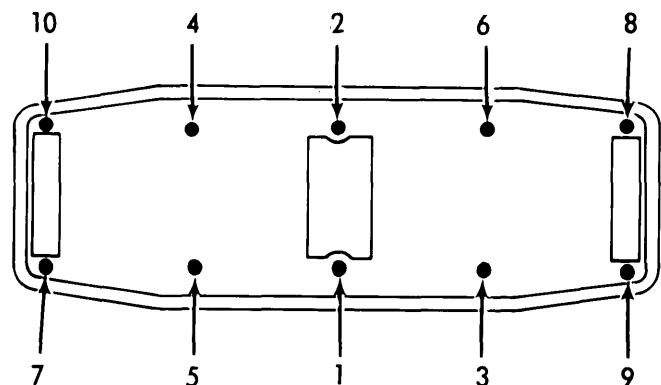

Fig. 1 Cylinder Head Tightening Sequence
3) Loosen timing belt adjusting and pivot bolt, then remove camshaft pulley bolt and remove pulley. Take off fuel pump and remove distributor. Remove oil pump gear holder and pump gear and shaft. Loosen bolts in reverse of tightening sequence (See Fig. 1), a little at a time and lift off cylinder head.
Installation – To install cylinder head, reverse removal procedure and tighten bolts in sequence shown in Fig. 1.